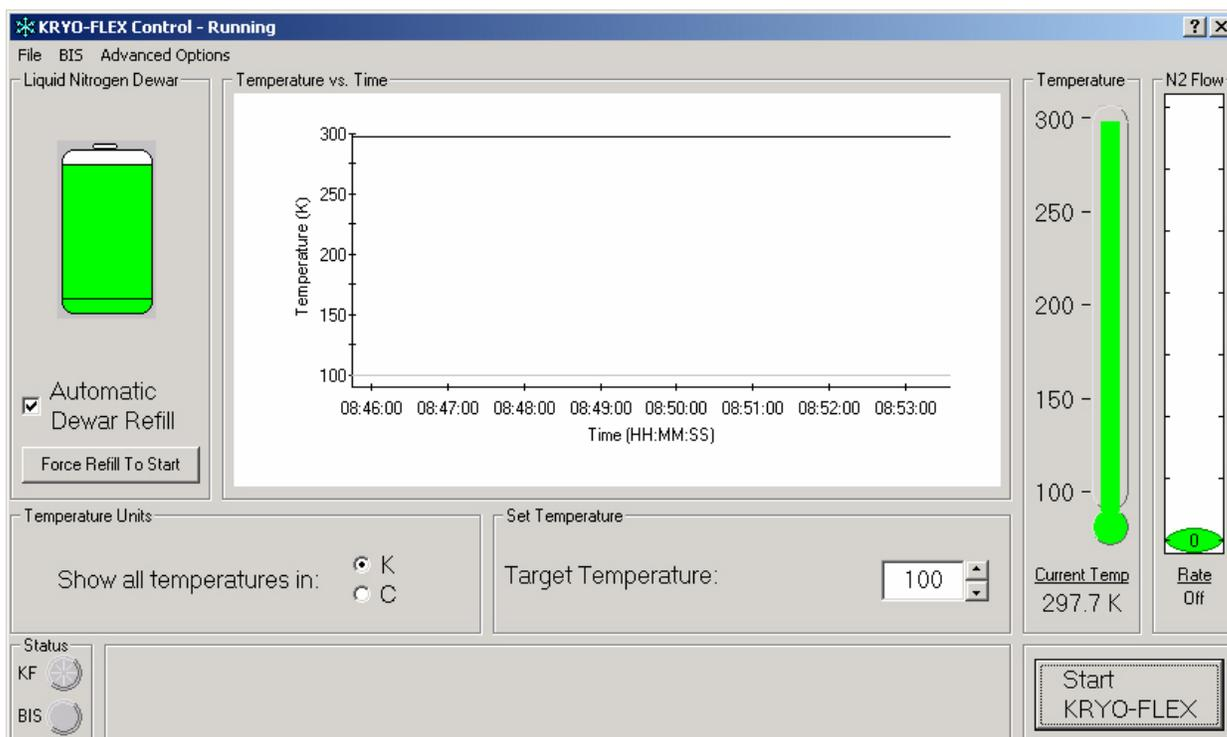

Figure 1. KRYO-FLEX Control-Running window
Before using the program, you will want to be familiar with the main window (Figure 1) and its features. This section explains those features.
During the cooling operation, a dark line forms (see Figure 1 example near 300° mark) to mark the exact temperatures at different points along the timeline. Two light lines form (see Figure 1 example near 100° mark—lines are so close, they appear as one) to indicate the acceptable range of temperatures for the current target temperature (the range being target temperature ± 0.1). These lines appear on the graph so that you can visually verify the temperature stability. During non-cooling, temperatures will rise to room temperature, and these will record in the graph for the extent of that period.
1. Double click the KRYO-FLEX icon (snowflake in standalone program, thermometer in the PROTEUM program) to start the KRYO-FLEX program. The KRYO-FLEX Control-Running window appears (recall Figure 1).